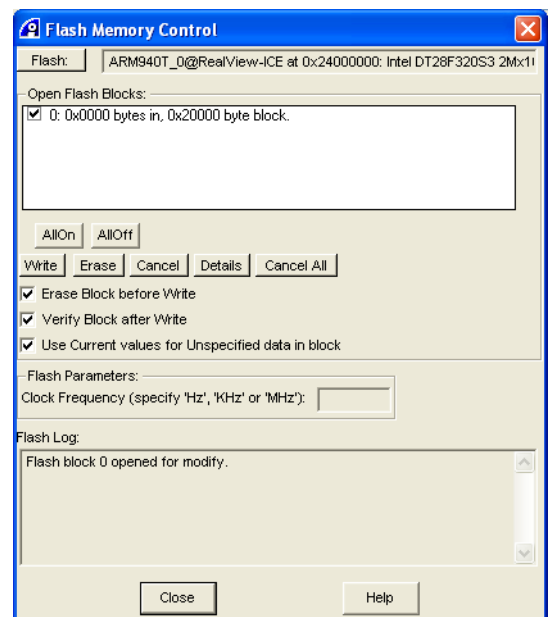

Figure 6-2 The Flash Memory Control dialog box
3. Locate the required image file, and click **Open** to open the Flash Memory Control dialog box, shown in Figure 6-2. RealView Debugger queues the image in preparation for writing to Flash.